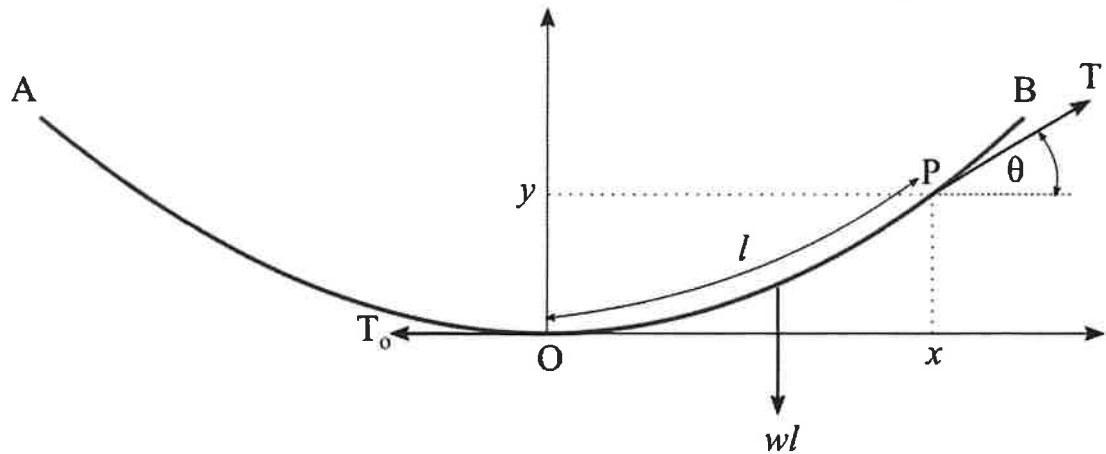

Figure Q3.
- Q3 a) Consider a portion OP of a curved length l of the overhead conductor shown in Figure Q3 which is hanging in still air with O as the lowest point on the conductor. Let the weight of the conductor per meter length be w kg.